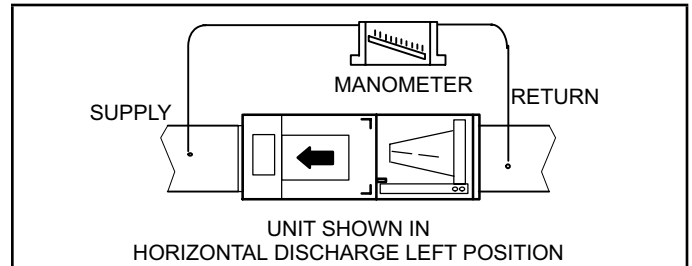

FIGURE 19. Static Pressure Test
- 1 - Measure tap locations as shown in figure 19.